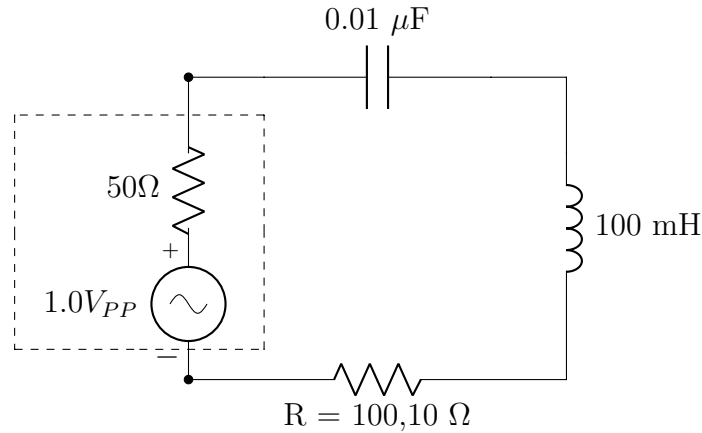

Figure 6.4: Series RLC Circuit
Part (0) Before coming to the lab, calculate f_o , Q, BW, f_1 , and f_2 for the circuit shown in Figure 6.4 when $R = 10\Omega$ and 100Ω . Don't forget to include the impedance of the function generator ($R_{FGEN} \approx 50\Omega$) as part of the total resistance in the circuit. Record the results in the "predicted" column of Table 6.3.
1. Construct the circuit shown in Figure 6.4 using a 100 Ω resistor for R. Adjust the function generator to generate a sine wave with voltage 1.0 V_{PP} . Initially set the frequency to 5000 Hz.